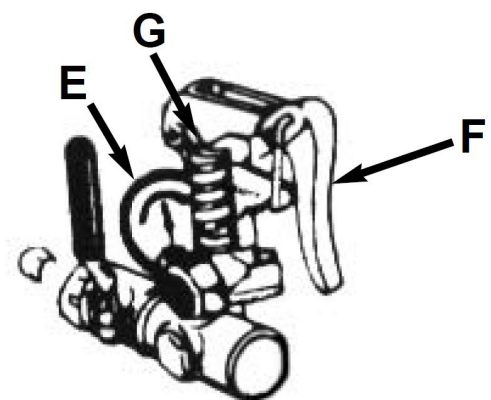

Fig. 3
3. Check the charge pressure (E) on the pulsation dampener before starting the pump. The pressure is checked with a standard automotive air gauge. The pressure should be at approximately 20% of the maximum operating pressure. (refer to Fig. 3)
4. On the pump you can adjust the pressure by clamping the relief valve adjustment lever (F) down. With the bale hook in the number one position the pressure is about 100 psi; number two is about 250 psi; number three is about 450 psi; number four is about 550 psi. These pressures can be adjusted by using the fine adjustment knob (G) located on top of the relief valve spring. The fine adjustment knob can be rotated when the relief valve lever is in the up position. (refer to Fig. 3)